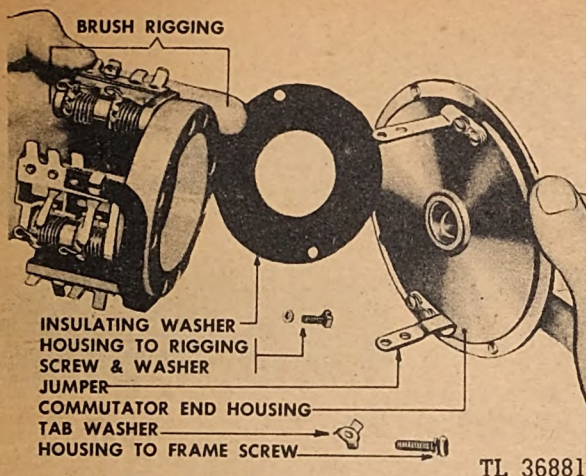

Fig. 229. Assembling Commutator End Housing and Brush Rigging
(9) Release the brush rigging from the commutator end frame by removing the two rigging attaching screws. (See Figure 229.)
(10) Pry off the dust cap from the commutator end frame.
(11) Disassembly of the subassemblies may be necessary if the inspection reveals parts
(1) Attach the brush rigging to the commutator end housing. Be sure the insulator is inserted between the rigging and the housing. Do not put the brushes into the holders until the armature is in place. (See Figure 229.)
(2) Line up the center punch marks and attach the commutator end housing assembly to the field frame ring assembly. Be sure to use new spring lockwashers and new tab washers under the screws.
(3) Insert the armature into the drive end housing. Then place the armature in position.